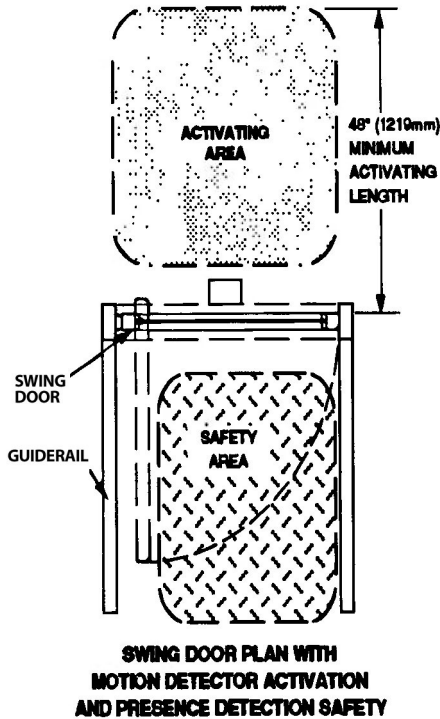

Figure 1
- If the door is equipped with an overhead-mounted presence sensor, as long as you are in the safety area of the door it should not open. (See Figure 1)